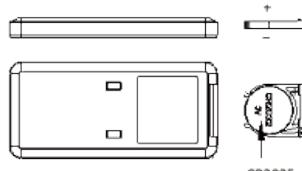

Fig2
2. Put a CR2025 3V battery on the holder, make sure the + side face top, and – face down. (Fig2)